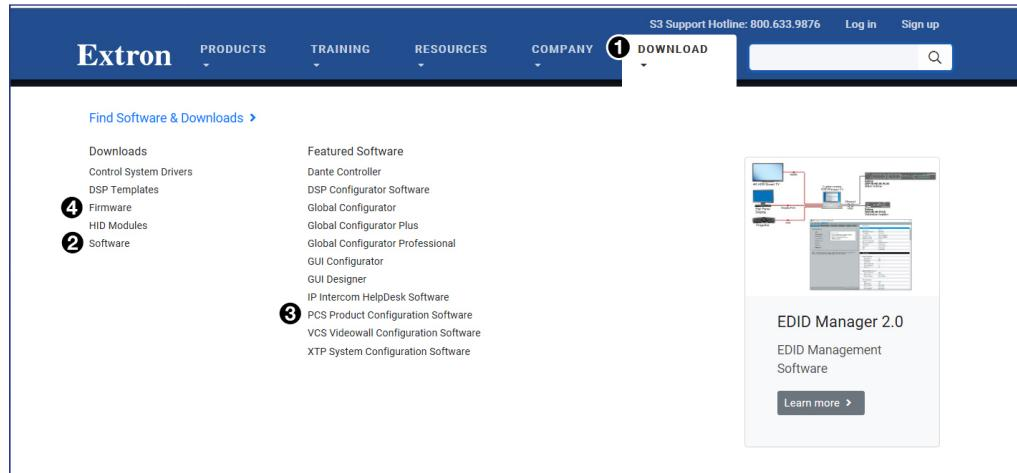

Figure 25. Software Links on Download Screen
1. Mouse over the **Download** link at the top of the page (see figure 25, ①).